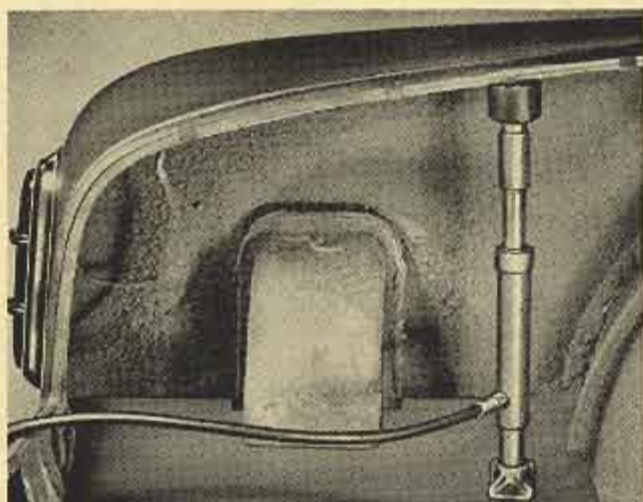

Fig. 3
3. Again check the lid to weatherstrip contact with a thin paper card as shown in Figure 1. If any low places are found along the sides or front, they can be raised with a jack as shown in Figure 3.